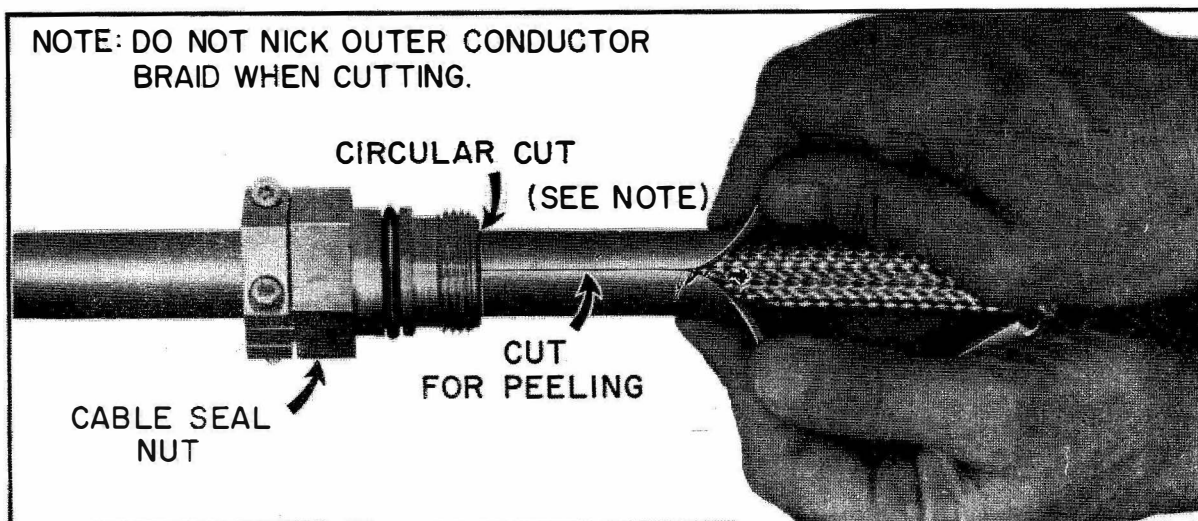

Figure 5-10e. Removing Cable Jacket
Step 5. - Using the end of the cable seal nut as a guide make a circular cut around the cable jacket. Make a cut the length of the section and remove the jacket as illustrated in figure 5-10e. Do not nick outer conductor braid. Form the outer conductor braid down over the dielectric and inner conductor and slide braid clamp washer, piece 6, against the cable seal nut.